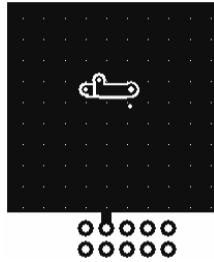
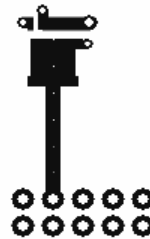

Figure 4. 1 Square Inch of 2-ounce Copper
Figure 5. Minimum Pads of 2-ounce Copper
2. The device power dissipation and thermal resistance (R_θ) are characterized with device mounted on the following FR4 printed circuit boards, as shown in Figure 4 and Figure 5.